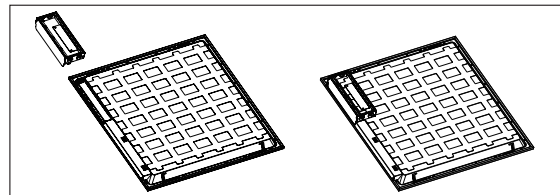

Fig. 2
- (2). Place the j-box accessory where the cover was removed in step 1.(Fig. 2)